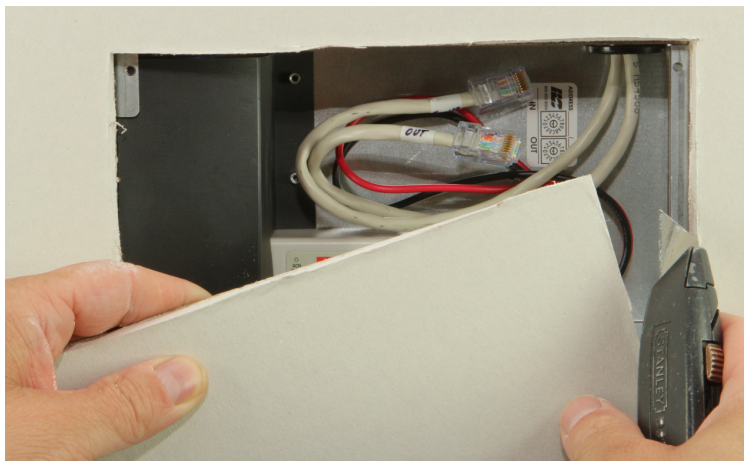

Figure 6 Wall Covering Opening
10. Install wall covering and cut out the opening for the touch screen. **DO NOT cut out the hole to the outside of the enclosure.** Cut to Inside edge top & bottom and ¼" beyond the left & right inside edge exposing the two mounting screw holes left and right. Do not install the touch screen assembly until the wall is finished to prevent paint or dust damage to the electronics. Refer to Figures 6, 7, and 8.